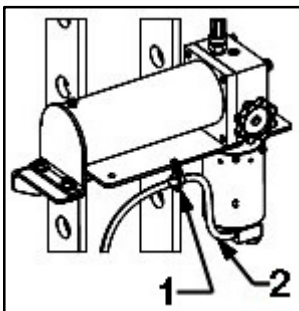

Fig. 26: Attach s-hook to hold air hose
2. Attach the S-hook to the hole in the Pump Bracket [item #43] as shown in Fig. 26.